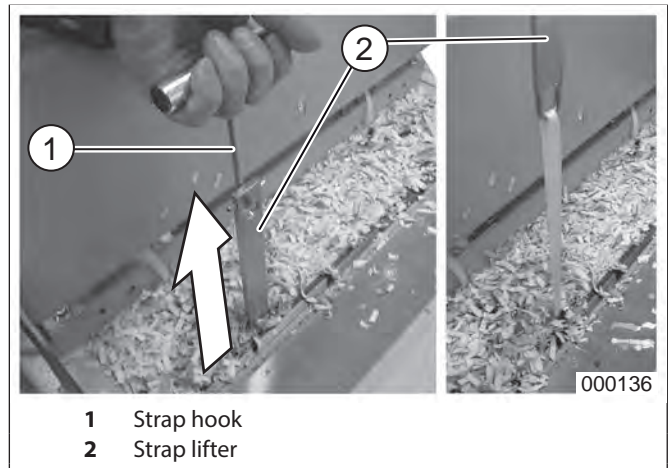

fig. 18 Strap lifters
3. Pull the straps to approximately 40 cm above the baling ram with the help of the strap lifters (fig. 18/2) and the included strap hook.